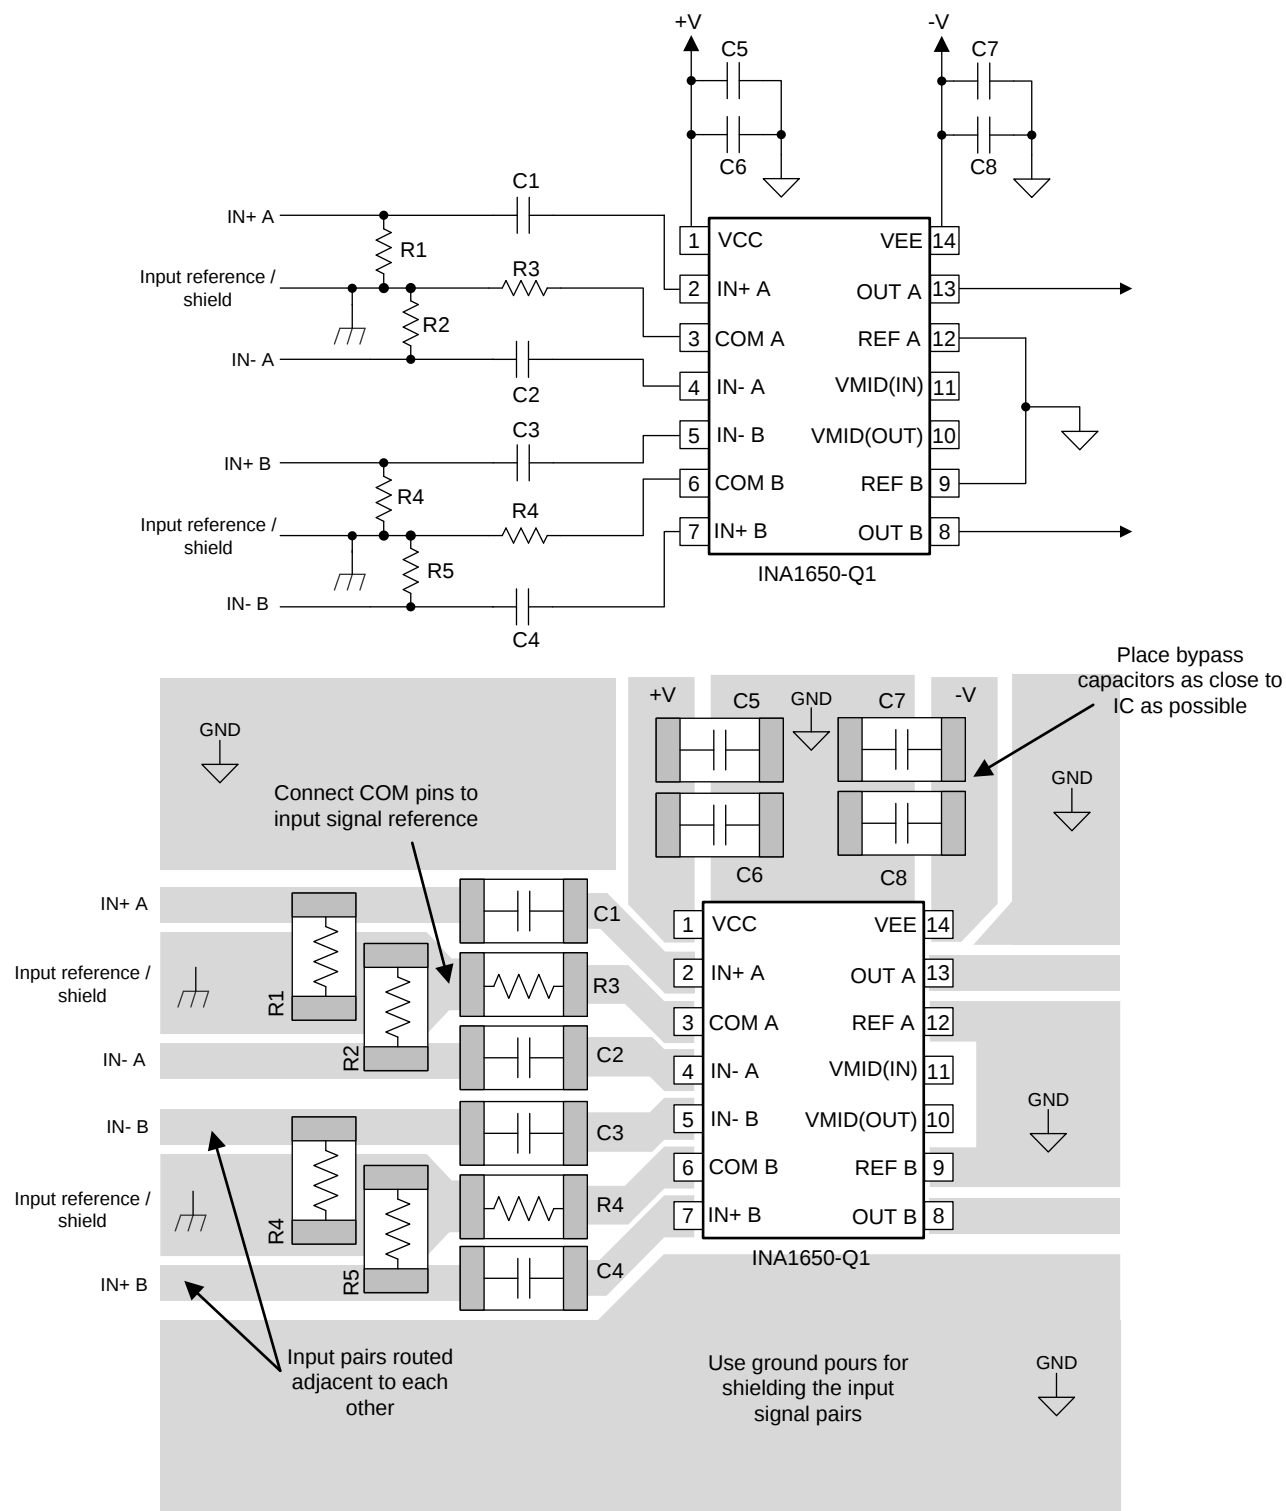
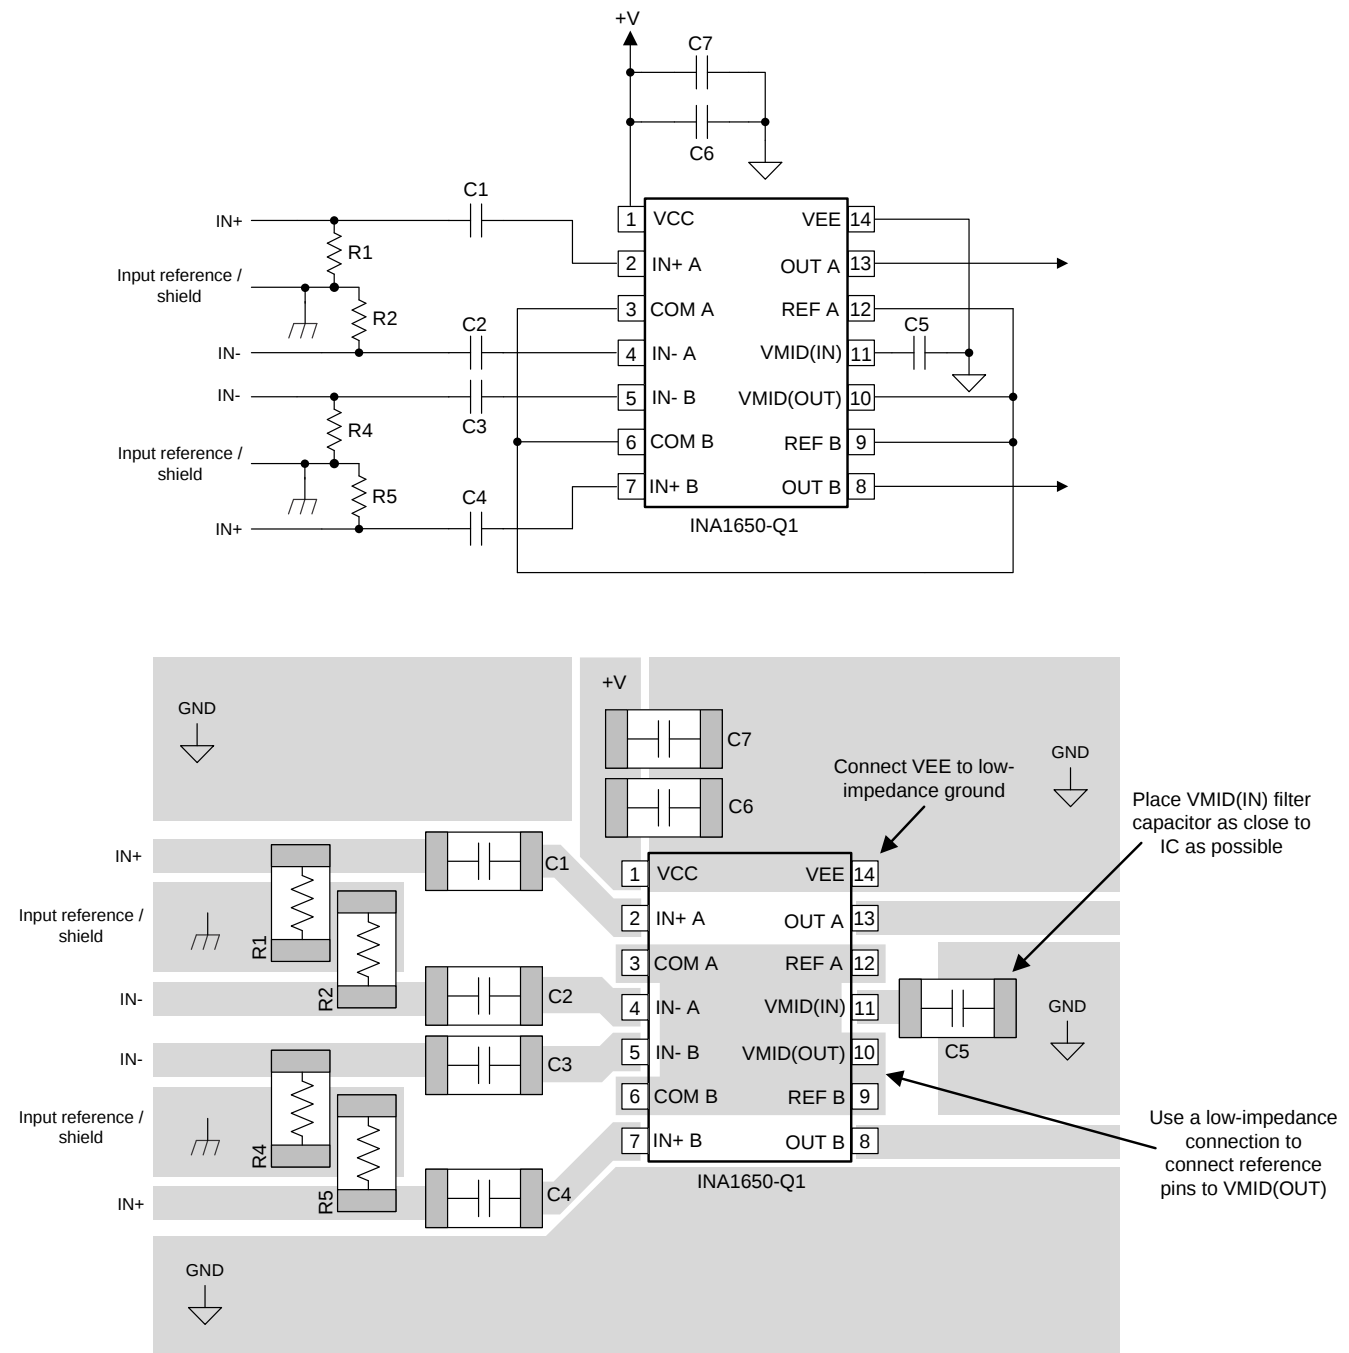

FIG 62. Layout Example for a Dual-Supply Line Receiver
FIG 63. Layout Example for a Single-Supply Line Receiver
- Place the external components as close to the device as possible, as shown in Figure 62 and Figure 63.